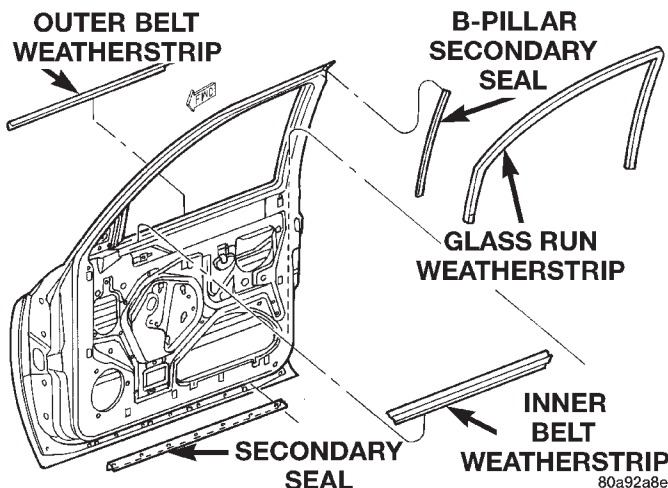

Fig. 34 Front Door Weatherstrip
- (1) Remove screws attaching trim panel to door.
- (2) Lift trim panel up and over inner belt seal.
- (3) Peel seal from door (Fig. 34).
- (1) Lower glass.
- (2) Lift rearward corner of weatherstrip and slide weatherstrip rearward (Fig. 34).